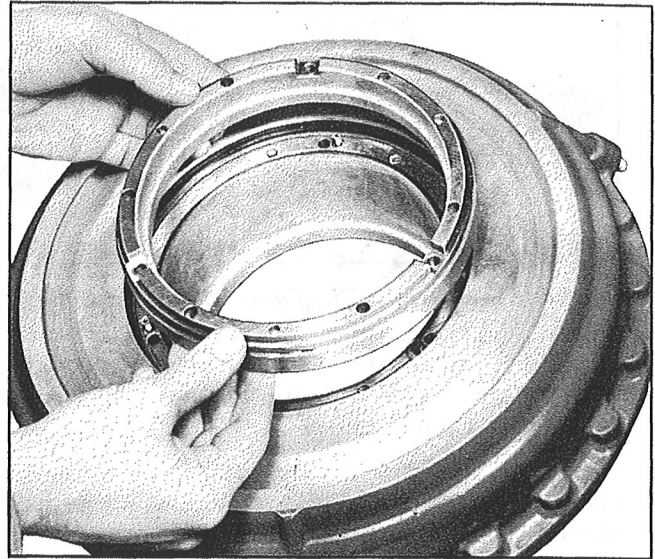

Figure 131—Removal of Adapter Ring
*Step 10.*—Lift the adapter ring from the regulator gear, as shown in Figure 131.